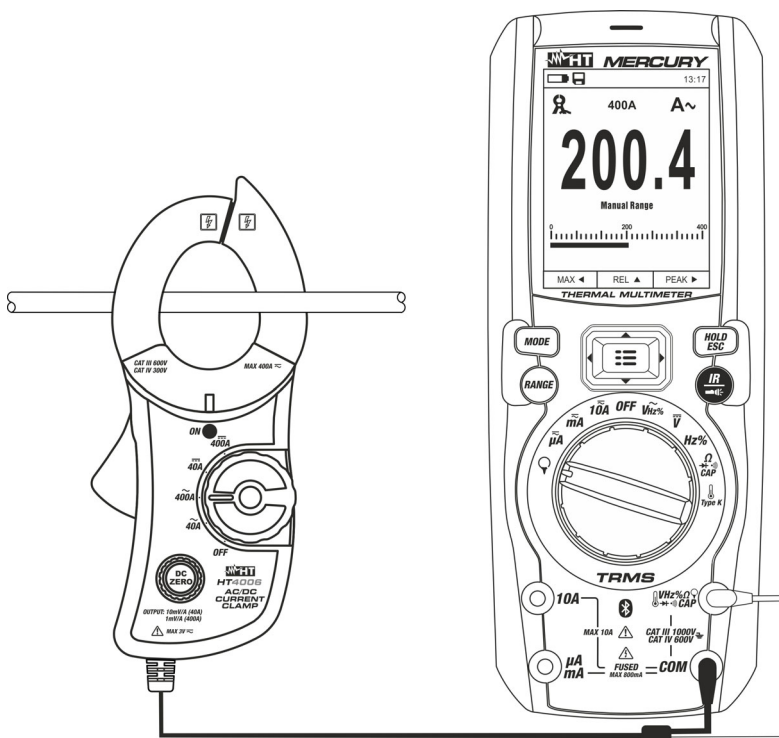

Fig. 4: Use of the instrument for measuring AC/DC current in combination with MERCURY
9. Open the jaws and insert the phase cable in the middle of it (see Fig.4). **For DC current measurement** consider the arrow on the top part (see Fig. 1 – part 9) which indicate the positive direction of the current. The display of the multimeter shows the value of current **expressed in A**